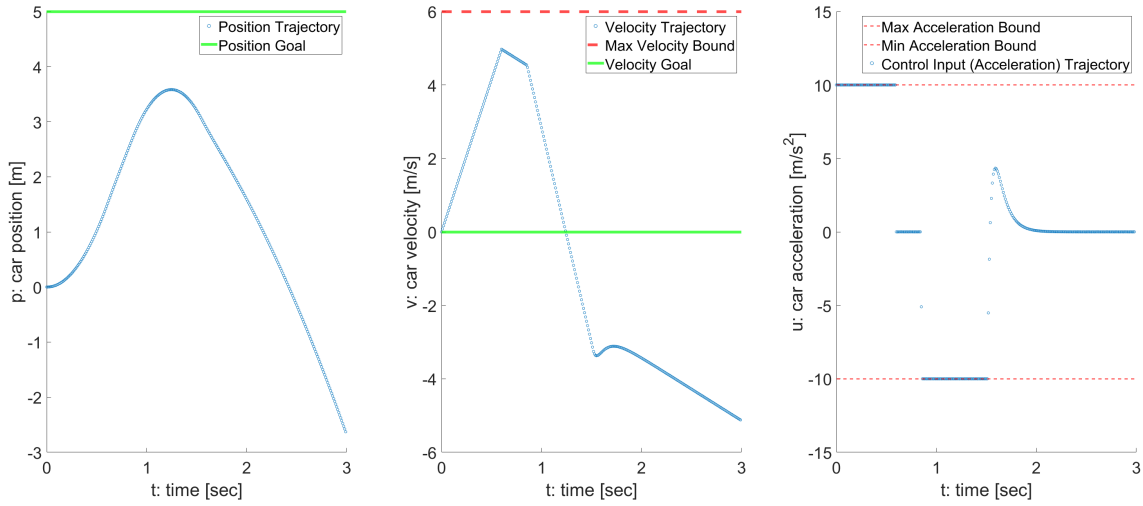
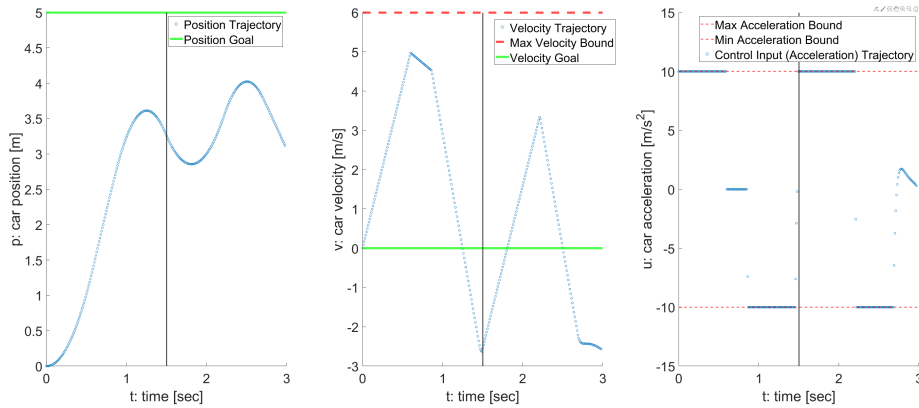

Figure 6: Problem 3a Solution applied to car on incline plane
Figure 7: Car on incline plane with a QP re-computation at 1.5s
However, without updating the discrete dynamics from (7) to (37) in the QP formulation, the controller will not know that the road conditions have changed. Therefore, assuming that the self-driving car is still trying to achieve the same goal state x_{goal} , the optimal control trajectory computed by the QP would be the same as the ones computed in Problem 3a. When these control inputs are applied to the new scenario, the self-driving car fails to reach x_{goal} . The resulting state trajectories computed from (38) using the control inputs from Problem 3a are plotted in Figure 6.
Note that we will have to recalculate the QP matrices (H, q, A_{in}, b_{in}) since they are dependent on the current state (x_k). **Reminder: the discrete dynamics used to formulate the QP are still defined by (7). In other words, the QP is unaware of the new inclined plane dynamics!** Figure 7 displays the resulting state trajectories. Comparing the position plot of Figure 6 to Figure 7, we notice that at 1.5s (when we recomputed the control inputs) the car tries to recover from the downwards slope by choosing maximum force inputs. This recovery is directly related to the state error term in the objective function.